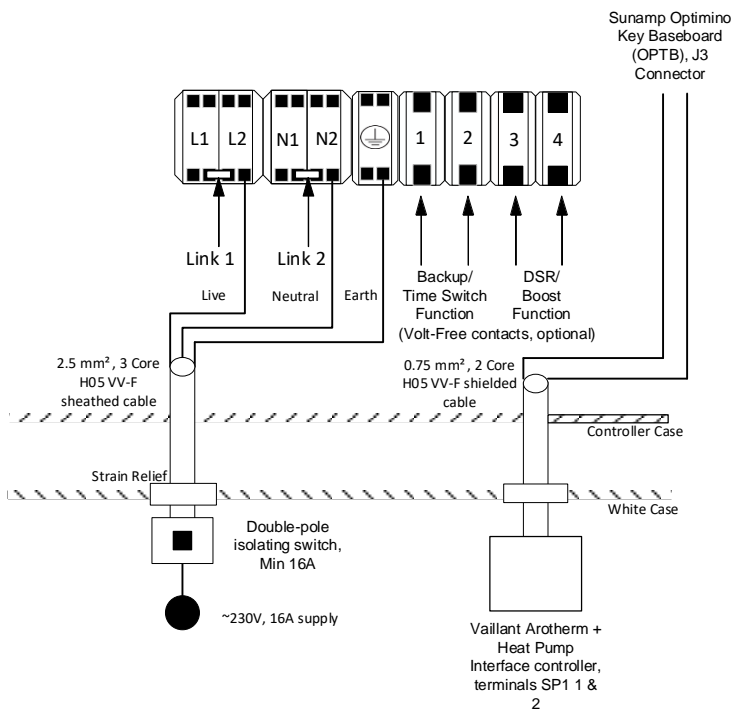

Figure VT.1 - Thermino xPlus with VT01 Optimino key
- Thermino xPlus with the “VT01” & “VT02” Optimino keys (D0084 – Section 6.4.2 for wiring instructions & Figures VT.1 & VT.2 below)
cables in terminals J3 on the Optimino Board, please see Figures VT.1 & VT.2 below for reference.